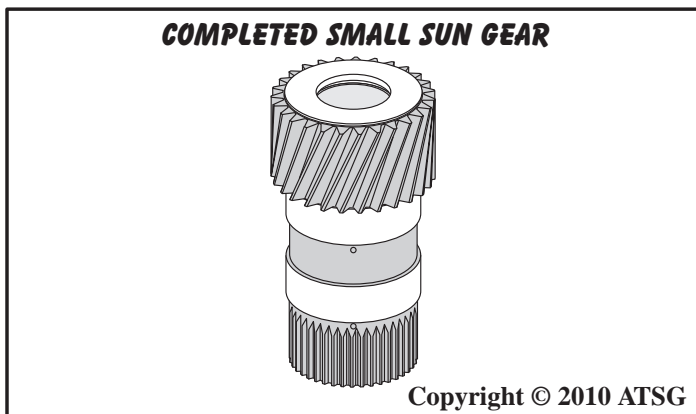

Figure 115
5. Set the small sun gear assembly aside for the final assembly process (See Figure 115).